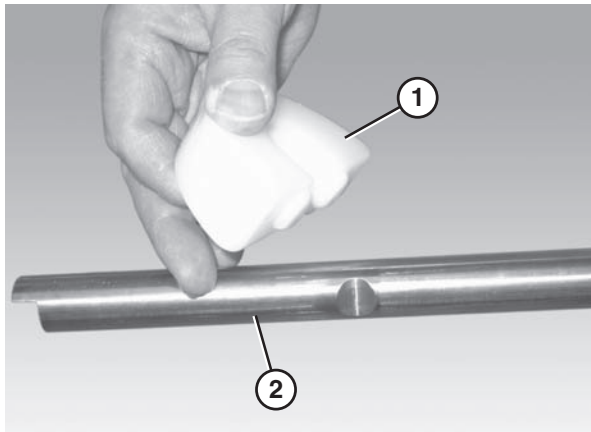

Figure 36
1. Attach the chain return shoes (Figure 36, item 1) to the return shaft (Figure 36, item 2).